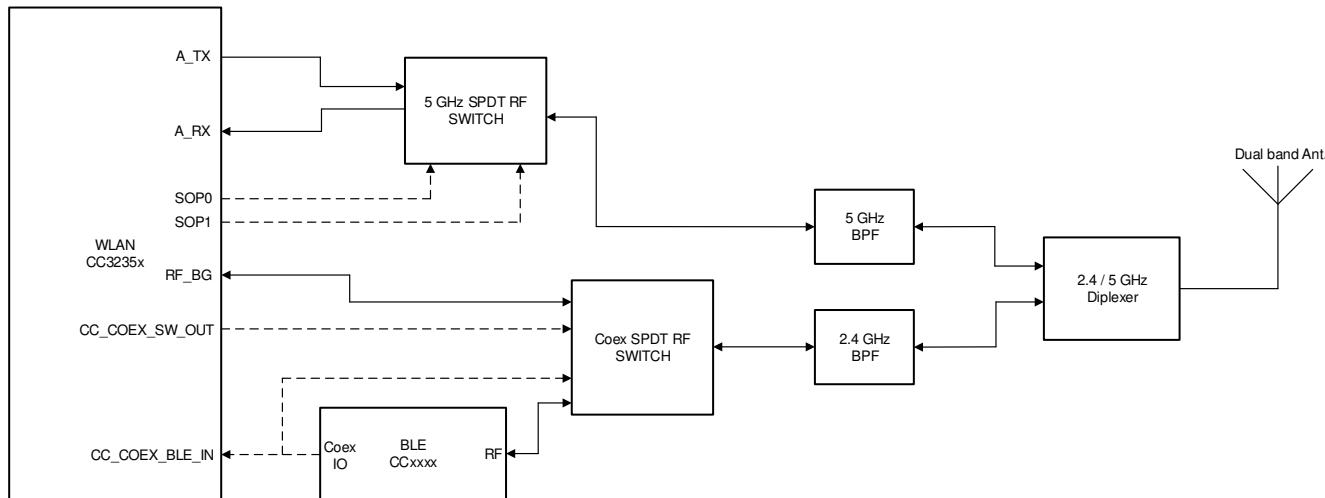

図 9-2. Single Antenna Coexistence Solution with 5GHz Wi-Fi
- 5GHz Wi-Fi band (see 図 9-2)
図 9-2 shows the single antenna implementation of a complete Bluetooth® low energy and WLAN coexistence network with the WLAN operating on either a 2.4- or a 5GHz band. The SOP lines control the 5GHz switch. The Coex switch is controlled by a GPIO signal from the BLE device and a GPIO signal from the CC3235x device.